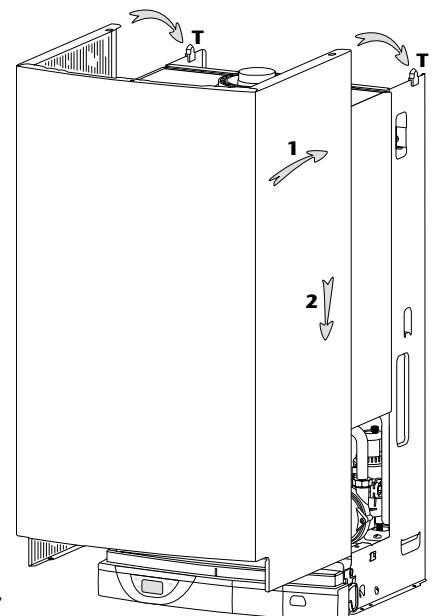

Fig. 17
- Position the casing as shown fig. 17